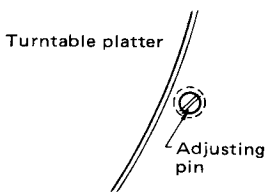

Fig. 1
- To move the stylus tip inward on the record, gradually turn the eccentric pin located in the adjusting hole clockwise, using a screwdriver with 4.5 mm outer diameter (Fig 1).